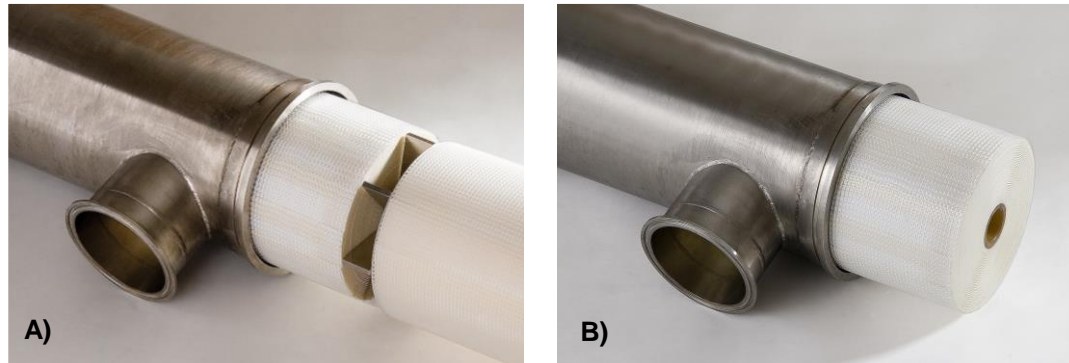

Figure 5. A) Install the next element into the pressure vessel and **B)** push connected elements into the pressure vessel.
- Lift the next element into position and install onto the interconnector in the previous element to connect elements (Figure 5). The ATD should be flush with the ends of both elements. Hold the next element with care so that the weight is not supported by the interconnector, and push the element into the pressure vessel until about one-half to one-quarter of the element extends outside the vessel.